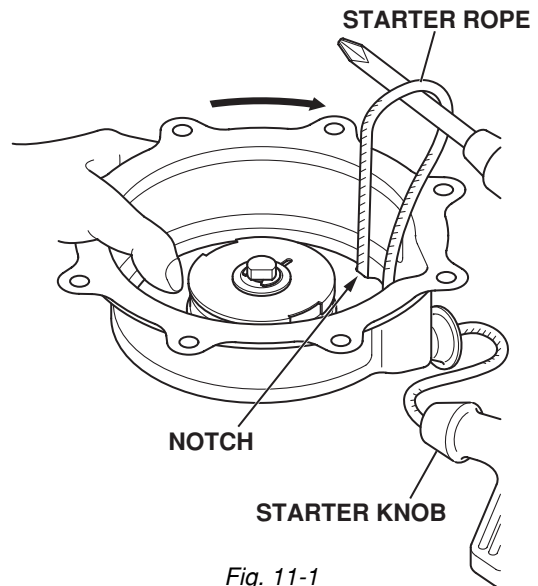

Fig. 11-1
- (1) Remove the recoil starter from the engine with a box spanner.
- (2) Pull the starting knob and pull out the starter rope for 30 to 40cm. Firmly press the reel with a thumb as shown in Fig. 11-1 so that the reel should not make reverse turn at the place where the reel notch comes to the outlet of starter rope. Pull out the starter rope to the inside of recoil starter with a screwdriver. Then, utilize the reel notch, and rewind it until the rotation stops in the arrowhead direction, braking the reel rotation with a thumb.